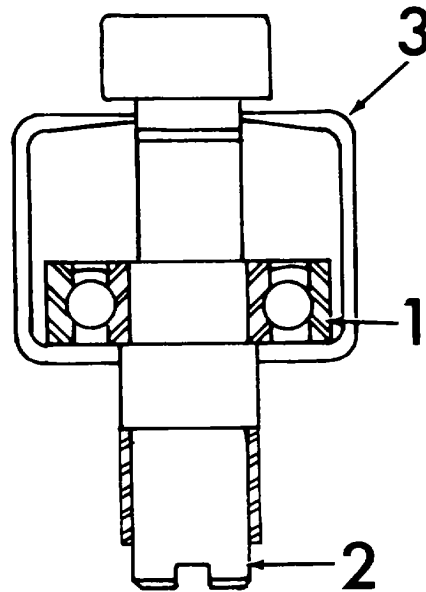

Figure 33. - Removing Ball Bearings
6. Remove ball bearing (1, Fig. 33) from the shaft (2) with a suitable puller (3) as shown.